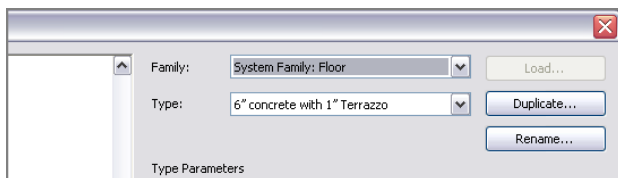

FIGURE 10.56: You must add a floor at the Level 3 floor plan for the stairs to have a landing.
5. Select the 6" (152mm) concrete with 1" (25mm) Terrazzo floor system from the Type drop-down list, as shown in Figure 10.56.